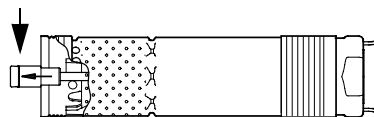

Fig. 4
2. Pull the pump shaft out to the position shown in fig. 4.